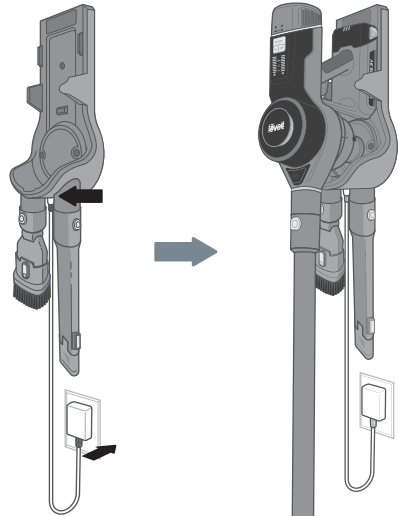

Figure 2.6
2. Insert the charger into the charging port on the dock. Plug the charger into the outlet [Figure 2.6].